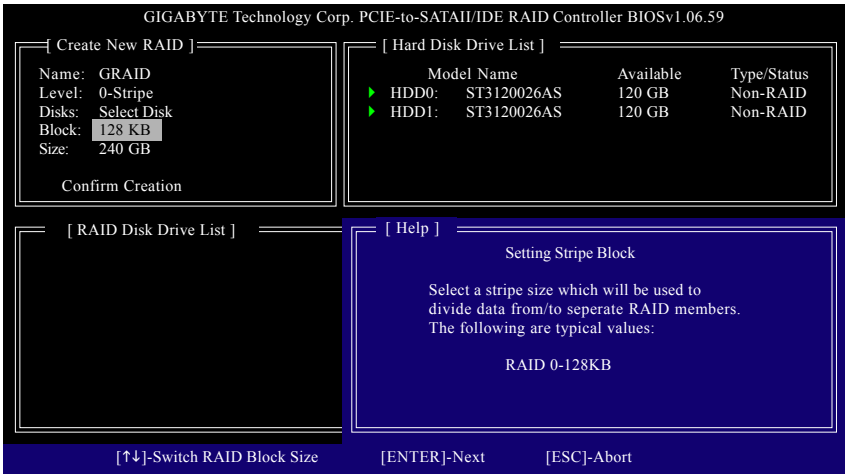

Figure 7
4. **Set Block Size (RAID 0 only):** Under the **Block** item, use the up or down arrow key to select the stripe block size (Figure 7), ranging from 4 KB to 128 KB. Press <Enter>.